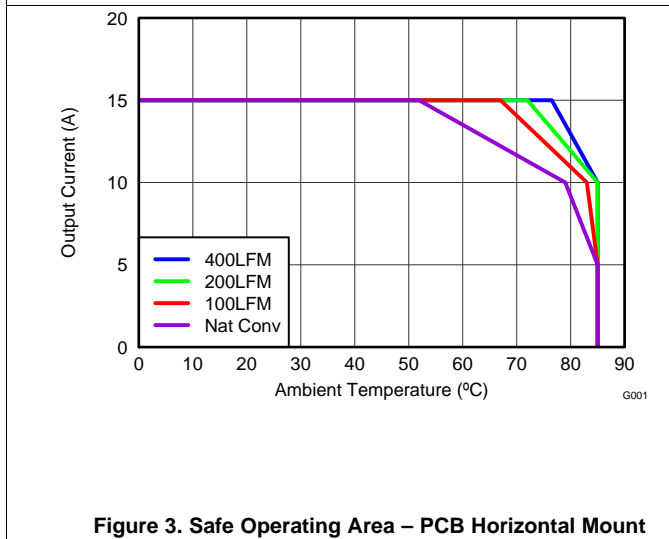
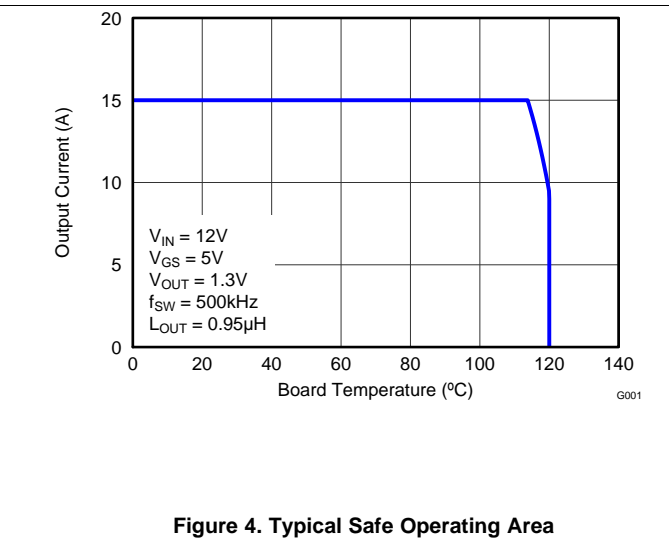

Figure 3. Safe Operating Area – PCB Horizontal Mount
Figure 4. Typical Safe Operating Area
$T_J = 125^{\circ}\text{C}$, unless stated otherwise. For Figure 3 and Figure 4, the Typical Power Block System Characteristic curves are based on measurements made on a PCB design with dimensions of 4 inches (W) × 3.5 inches (L) × 0.062 inch (H) and 6 copper layers of 1 oz. copper thickness. See Application and Implementation for detailed explanation.
$T_J = 125^\circ\text{C}$, unless stated otherwise. For Figure 3 and Figure 4, the Typical Power Block System Characteristic curves are based on measurements made on a PCB design with dimensions of 4 inches (W) x 3.5 inches (L) x 0.062 inch (H) and 6 copper layers of 1 oz. copper thickness. See Application and Implementation for detailed explanation.
The SOA curves in the CSD87381P data sheet provides guidance on the temperature boundaries within an operating system by incorporating the thermal resistance and system power loss. Figure 3 to Figure 4 outline the temperature and airflow conditions required for a given load current. The area under the curve dictates the safe operating area. All the curves are based on measurements made on a PCB design with dimensions of 4 inches (W) × 3.5 inches (L) × 0.062 inch (T) and 6 copper layers of 1 oz. copper thickness.